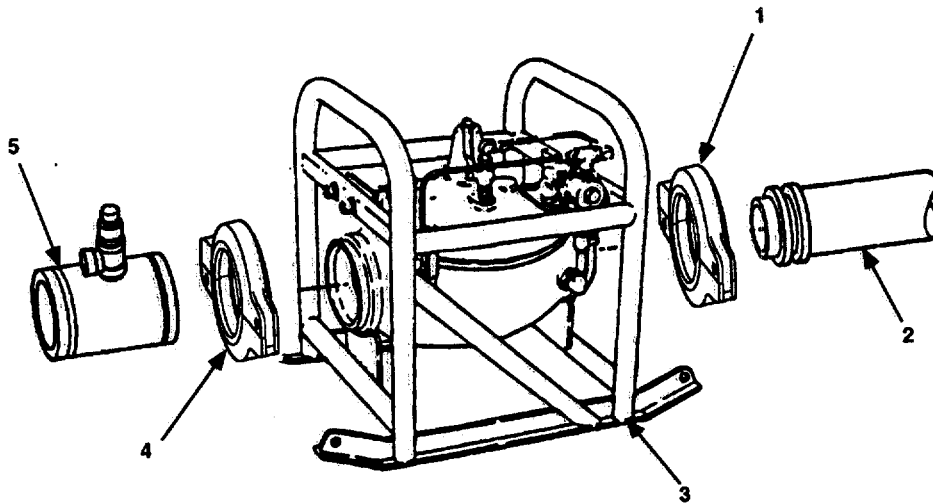

Figure 4-9. Pressure-Reducing Valve Assembly Replacement.
- a. Remove grooved-end pipe quick disconnect coupling clamp (Figure 4-9, 1) from downline 6 inch x 500 foot collapsible hose assembly (2) and pressure-reducing valve assembly (3).
- b. Remove grooved-end pipe quick disconnect coupling clamp (4) from pressure relief valve assembly (5) and pressure-reducing valve assembly (3).
- c. Remove pressure-reducing valve assembly (3).
- a. Inspect pressure-reducing valve assembly (3) for leaks, cracks, holes, missing components, or damage.
- b. Replace damaged or defective pressure-reducing valve assembly (3).